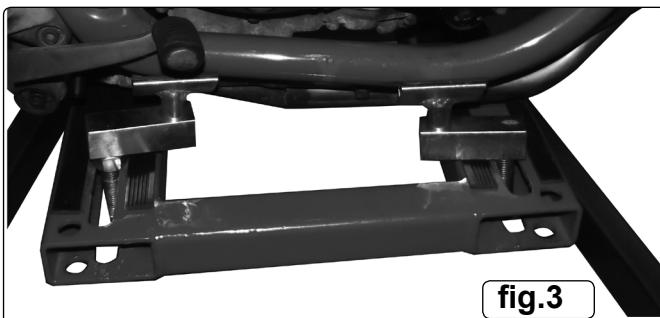

fig.3
- 4.4. Position the cradle beneath the motorcycle and adjust the position of the frame supports beneath suitable parts of the frame, taking care not to damage any exhaust components, pipes or cables. (see fig.3).